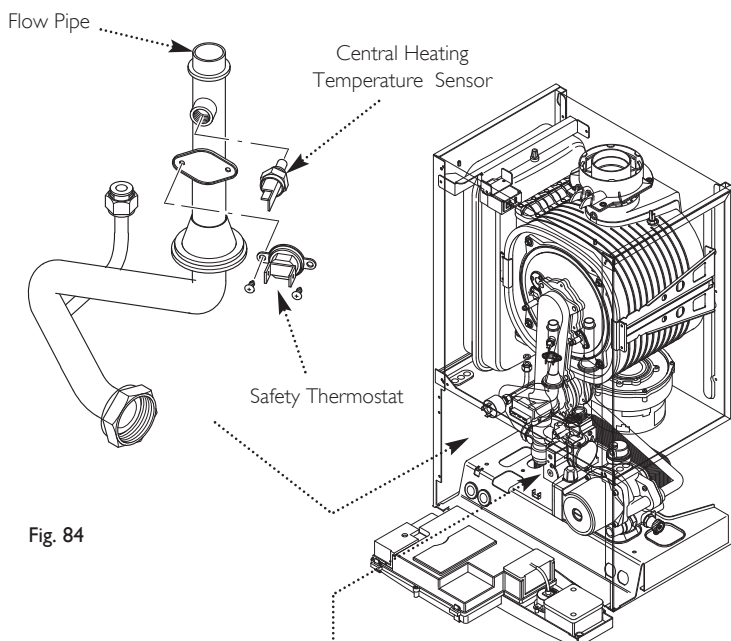

Fig. 84
- Important: When fitting the new venturi, ensure the arrows on its base point into the collector (Fig. 84).
### 14.10 Central Heating Temperature Sensor (NTC) (Fig. 84)